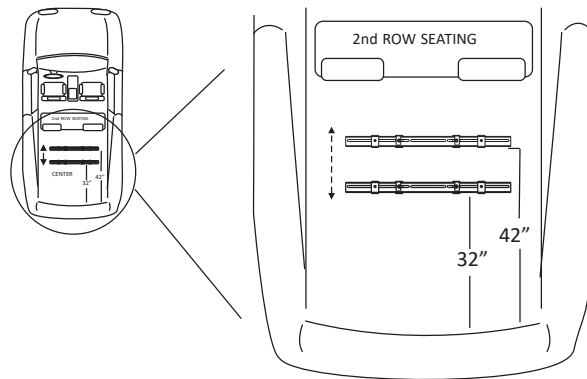

Figure 4-8
2. The AL6000 leg must be mounted between 32" and 42" from the internal surface of the closed back door of the vehicle. *See Figure 4-8.*